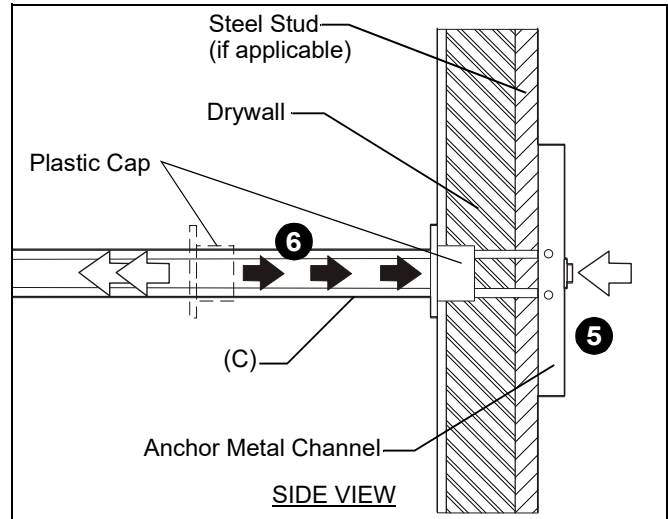

Figure 3
5. Holding plastic straps on anchor (C), pull anchor away from wall until channel rests flush behind wall making sure anchor channel is positioned vertically on stud. (See Figure 3)
6. Slide plastic cap on anchor (C) towards wall until flange of cap is flush with wall. (See Figure 3)